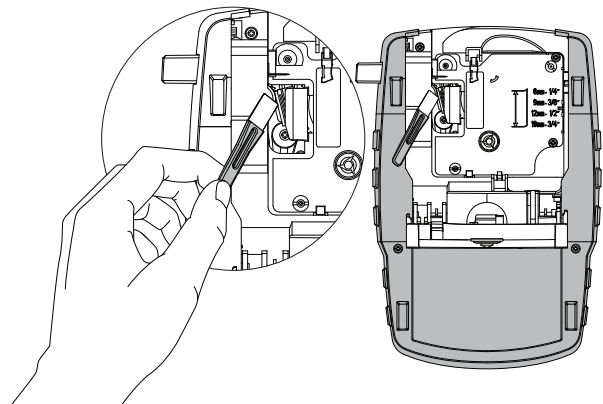

Figure 7
- 3 Gently wipe the padded side of the tool across the print head. See Figure 7.